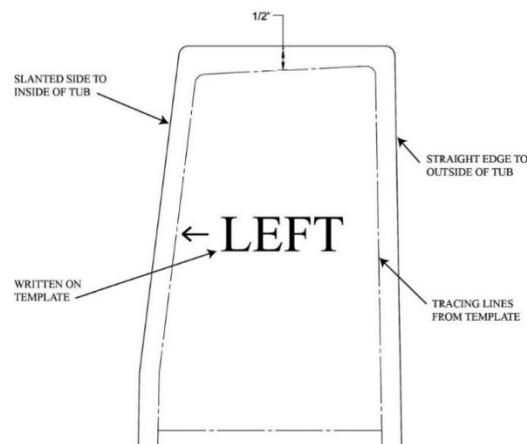

FIGURE 3 – SIDE VIEW OF LEFT END OF STEP
5. Place the right end of the CleanCut Step on the ground in order to trace the left side of the CleanCut Step. Place the top of the paper template approximately 1/2" from the top of the CleanCut Step (Figure 3). Place the tracing on the Step so the slope is similar to that of the tub. Trace the outline of the paper onto the CleanCut Step with a continuous line. Continue the lines with a straight edge down and around the corners. Repeat the same procedure for the right end of the CleanCut Step. Remember to place the paper template approximately 1/2" down from the top of the CleanCut Step before beginning to trace. Continue the lines with a straight edge down and around the corners.